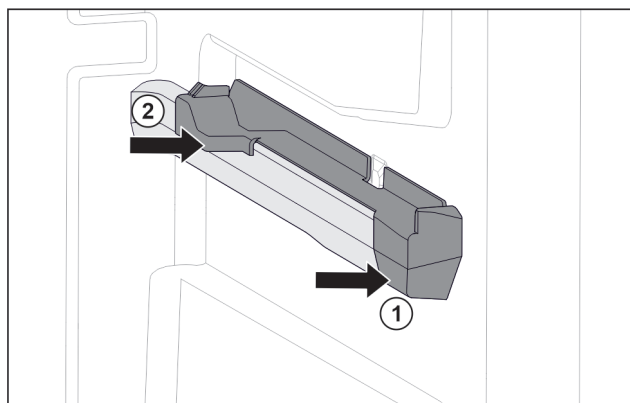

Fig. 139 Attachment on the right moulded rib
- Position attachment on moulded rib at the front. Fig. 139 (1)
- Press on attachment at the back. Fig. 139 (2)